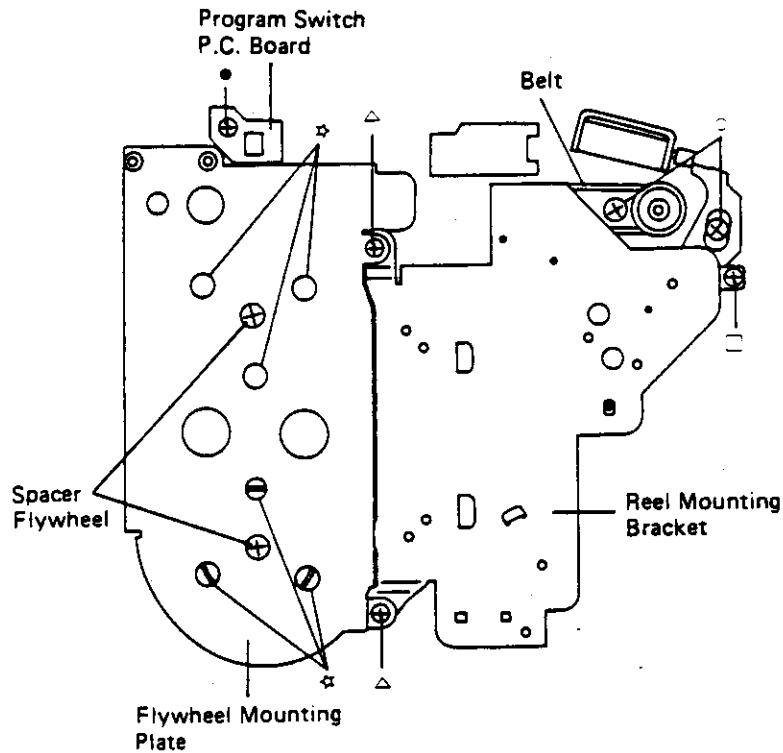

FIGURE 4-15. MOTOR REPLACEMENT
- a. Remove 2 screws (marked O) (see Figure 4-15).
- b. Remove the belt (see Figure 4-15).
- a. Remove 2 screws (marked Δ ) and remove the flywheel mounting bracket (see Figure 4-15).
- d. Mount the belt and the flywheel mounting bracket. Make sure flywheel's thrust clearance by pushing tip of the flywheel shaft and by pushing the flywheel through the opening on the flywheel mounting bracket (marked ) (see Figure 4-15).
- b. Remove one screw (marked ) and remove the flexible wire leads mounted on the PC board (see Figure 4-15).